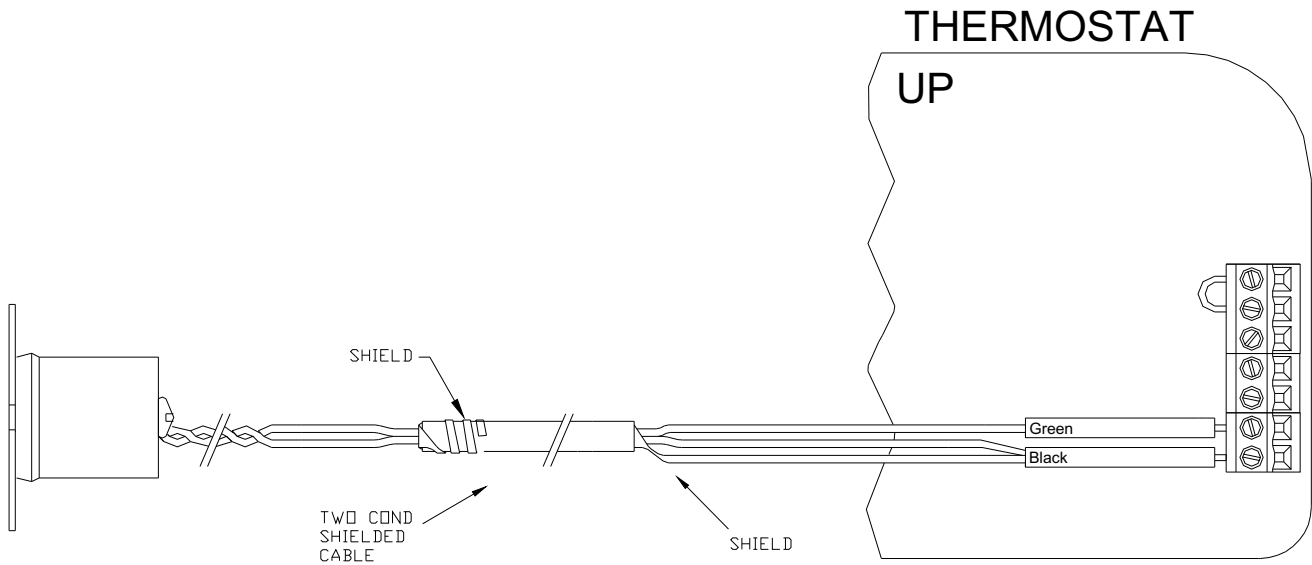

Figure 10 – *Connections to a Remote Temperature Sensor*
Make the connections to the Green and Black terminals under the section marked “Remote Temp Sensor” on the right terminal strip - See *Figure 10*.
1. When connecting a remote temperature sensor, the shield and one of the wires from the remote temperature sensor are tied together and get connected to the Black terminal – See *Figure 10*.